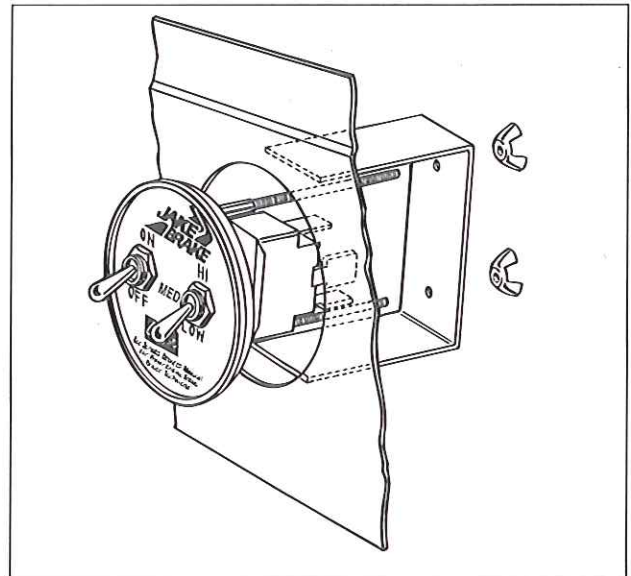

FIG. 26
4. Install the switch assembly with the bracket, lock washers and wing nuts (see Fig. 26).